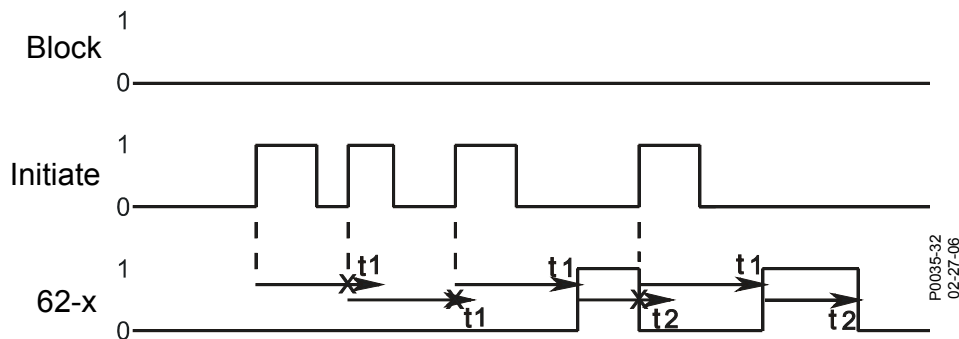

Figure 85-5. One-Shot/Retriggerable Mode
Step 7: Use the Metering Explorer in BESTCOMSPiplus to open the Reports, Sequence of Events screen. Verify that approximately 15 seconds after the second 43-1 OFF to ON initiate signal, the 62-1 timer output went true. Verify that the timer output went false when the third OFF to ON initiate signal forced the 62-1 time delay 1 to restart. Figure 85-5 illustrates the timing relationship of the 43-1 switch and 62-1 timer.